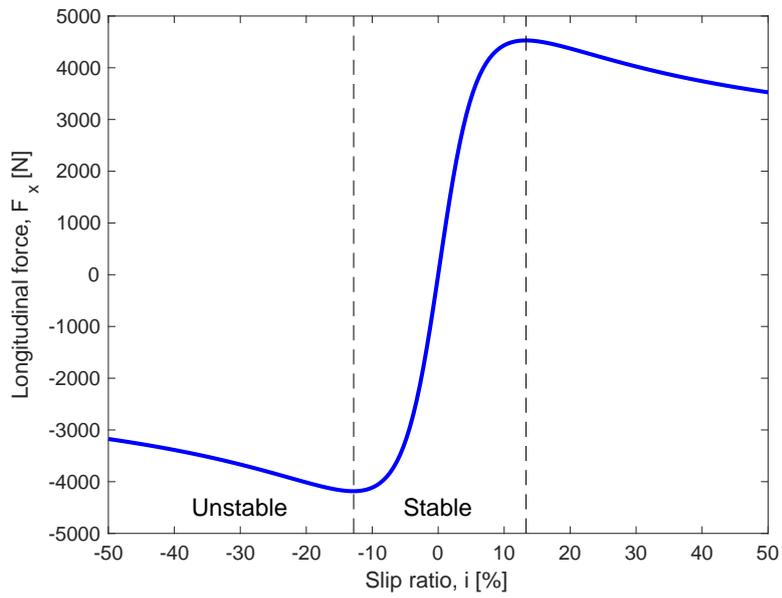

Figure 1 Longitudinal tire force.
- Formulate ω_{des} as a function of the desired slip ratio i_{des} . (The slip ratio is defined in (2).)
- Define a slip reference value i_{des} for your controller. (Hint: You can use Figure 1 for this.)
Slip control is an alternative to ABS systems. ABS systems operate by reducing the braking pressure when the slip ratio approaches the unstable region, where if the braking force is kept constant the wheel will eventually lock (See Figure 1). In contrast, slip control systems control the slip ratio towards a desired value.
Figure 1 show how the longitudinal tire force depends on the slip ratio i , with the slip ratio defined as